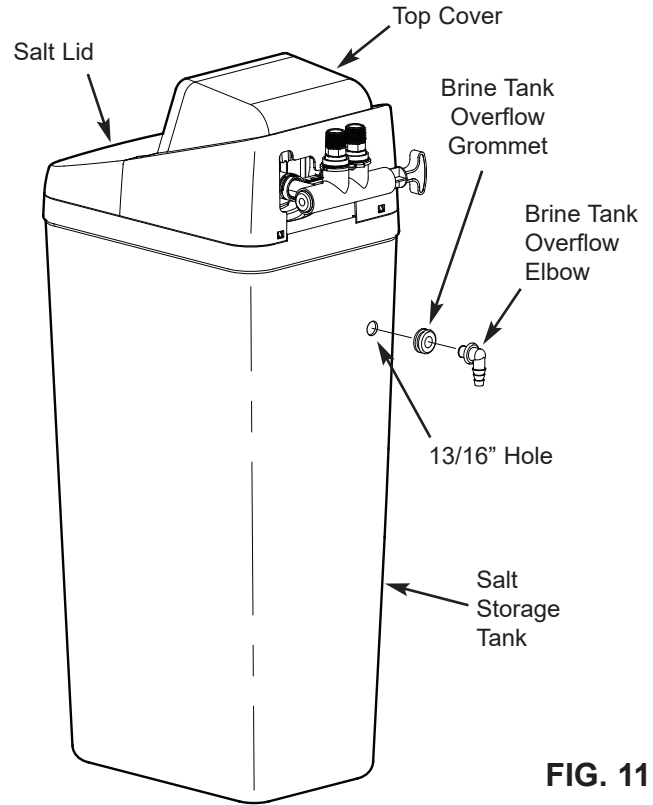

FIG. 11
1. Morton® water softener models are factory assembled. During installation, unsnap and remove the top cover, together with the salt lid (See Figure 11), to expose the softener valve assembly. Set them aside to prevent damage.
2. Install the brine tank overflow grommet and elbow into the 13/16" diameter hole in the back of the salt storage tank wall (See Figure 11).